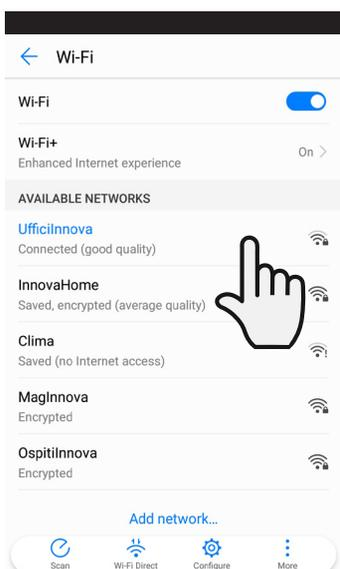

Figure 9.6
3. Connect to the same WiFi network where the web server is connected (Figure 9.6)